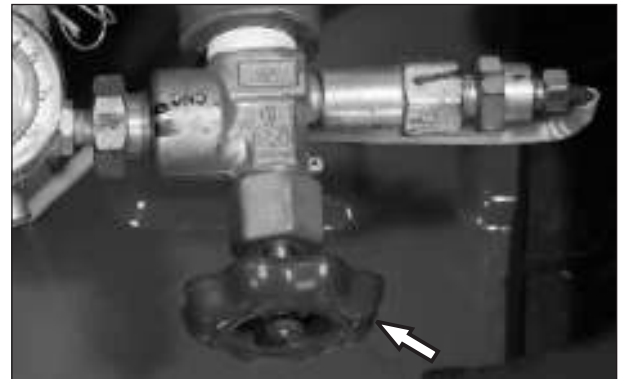

Fig. 8.13
- In case of any leakage is observed, shut-off valve should be closed immediately. (Fig. 8.13)